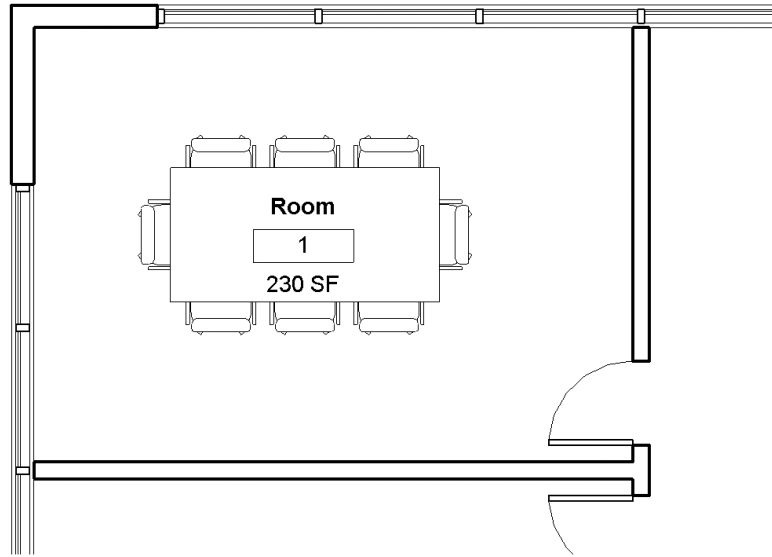

FIGURE 8.5 Room tag with area
5. Choose the Room Tag With Area option from the Type Selector in the Properties palette. The room tag shows the area based on your project units (Figure 8.5). In this case, the room is 230 square feet (21 square meters).